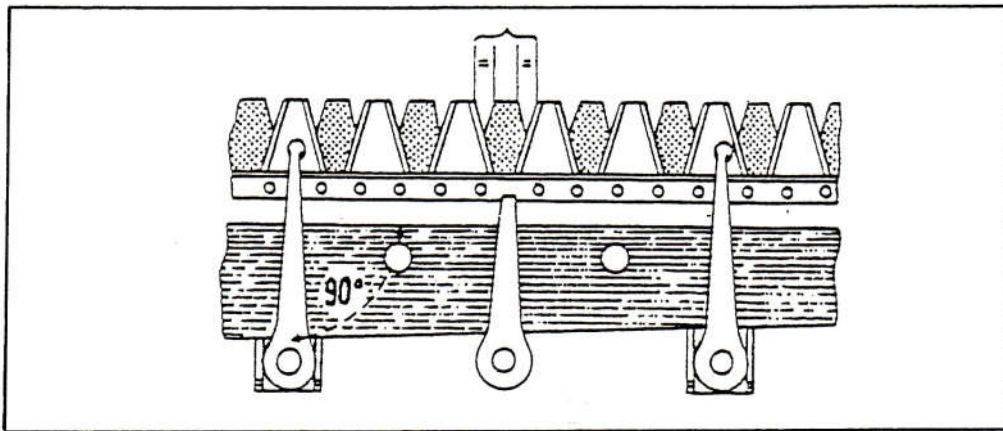

Figure 8
- The cutting blades will be brought to the middle position of Figure 8, so that the upper guide bar occupies a 90° angle to the upper edge of the bar.